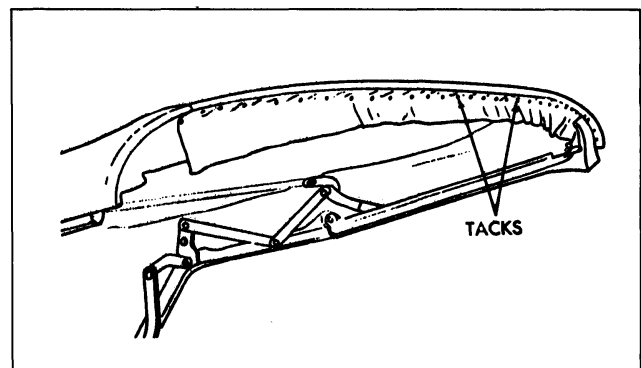

Fig. 21-44 Installation of Top Material
13. Unlock top from windshield header and apply nitrile cement or neoprene-type weatherstrip adhesive to tacking area of front roof rail and corresponding surface of top material; then fasten top trim to cemented area and stay tack trim to rail (Fig. 21-44).